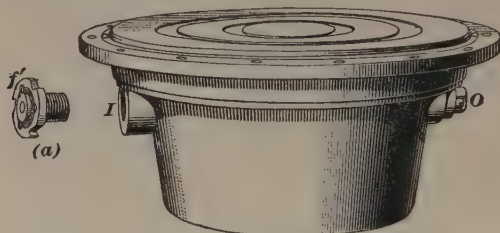
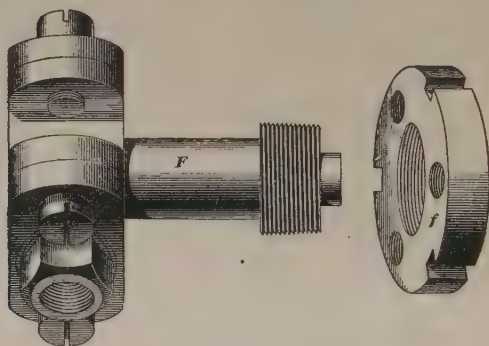

FIG. 5
FIG. 6
6. In Fig. 5 is given an outside view of the **regulator** used in the Pintsch system, *I* being the inlet and *O*, the outlet. The *inlet bushing*, shown separately at (*a*), is screwed into the regulator casting at *I*, the connection with the high-pressure piping being made by means of the fitting *F* shown in Fig. 6. The flange *f*, Fig. 6, is screwed on to the fitting *F*, and then this flange and the flange *f'*, Fig. 5, are bolted together by three bolts. Connection is made at *O* with the low-pressure piping leading to the various lamps.
lating valve that admits gas from the storage tank. In the older type of regulator, there is a loose bushing in the center of the flange f' , as seen in Fig. 5 (a); its duty is to hold the